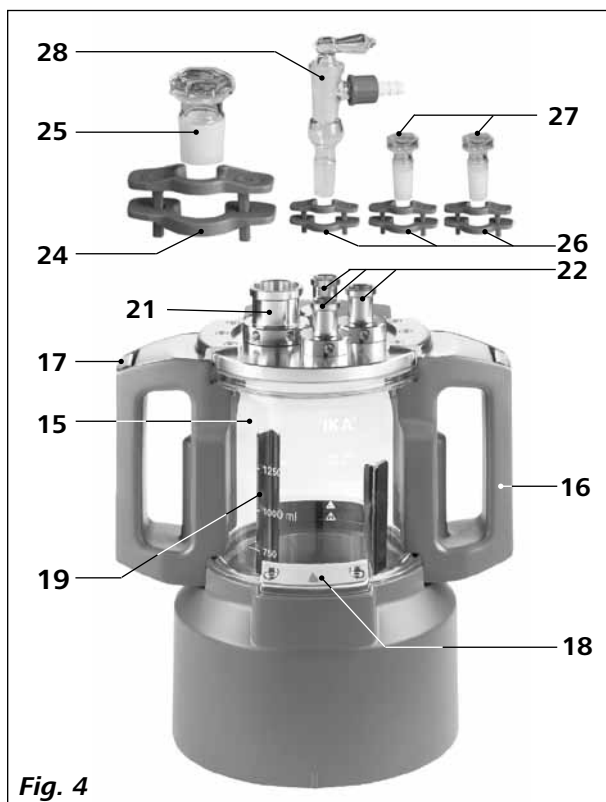

Fig. 4
- Reactor vessel LR 1000.1 (see Fig. 4)